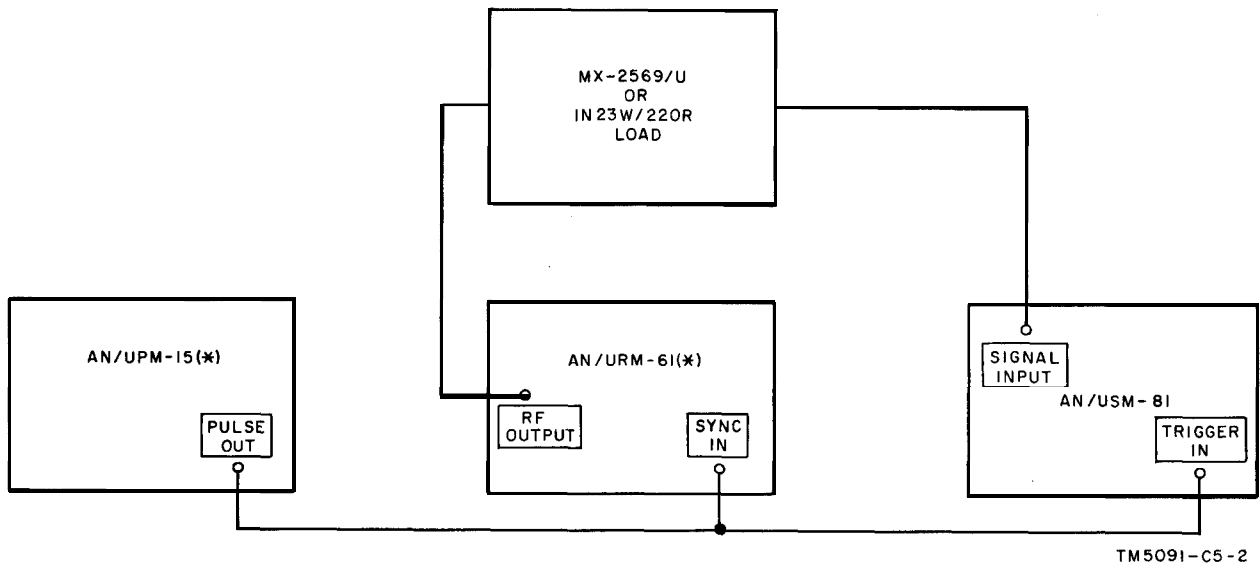

Figure 5-8.1. Pulse delay test connections.
a. Connect the equipment as shown in figure 5-8.1.
- (1) SYNC SELECTOR to POS.
- (2) Oscillator modulation selector switch to INT.
- (3) P U L S E DELAY to 5 μ sec.
Add figure 5-8.1 after figure 5-8.